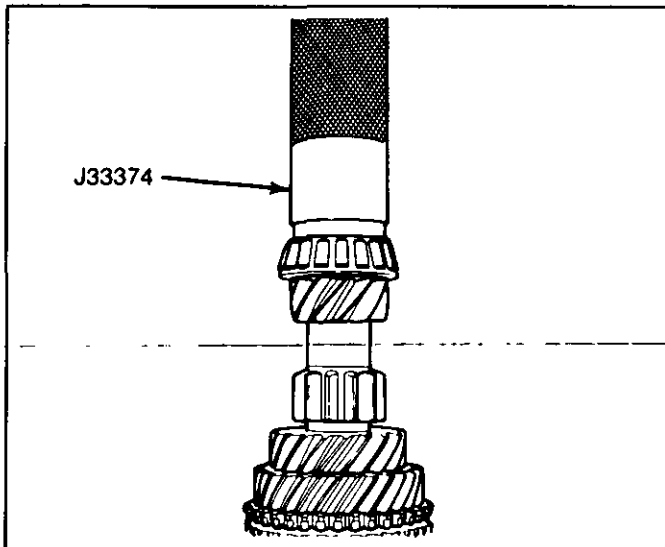

Figure 33 Front Brg. Input Shaft
4. Install the front and rear bearings using J-33374 and a press (Figures 33 and 34). Before installing, apply oil to the bearing interior and race surfaces.